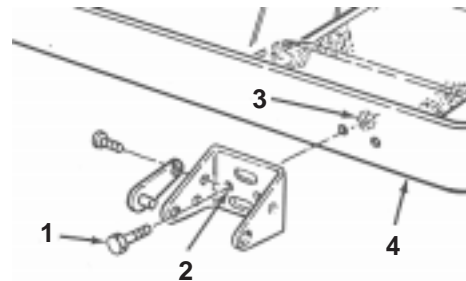

Figure 5
- Groundsmaster 217-D and 220 – Align the bracket with the frame mounting holes. Insert 2 flange head capscrews (3/8 x 2-1/4 in.) through the non-slotted bracket holes and frame mounting holes. Install lock nuts and torque them to 45–50 ft.-lb. (61–68 N·m) (Fig. 5)